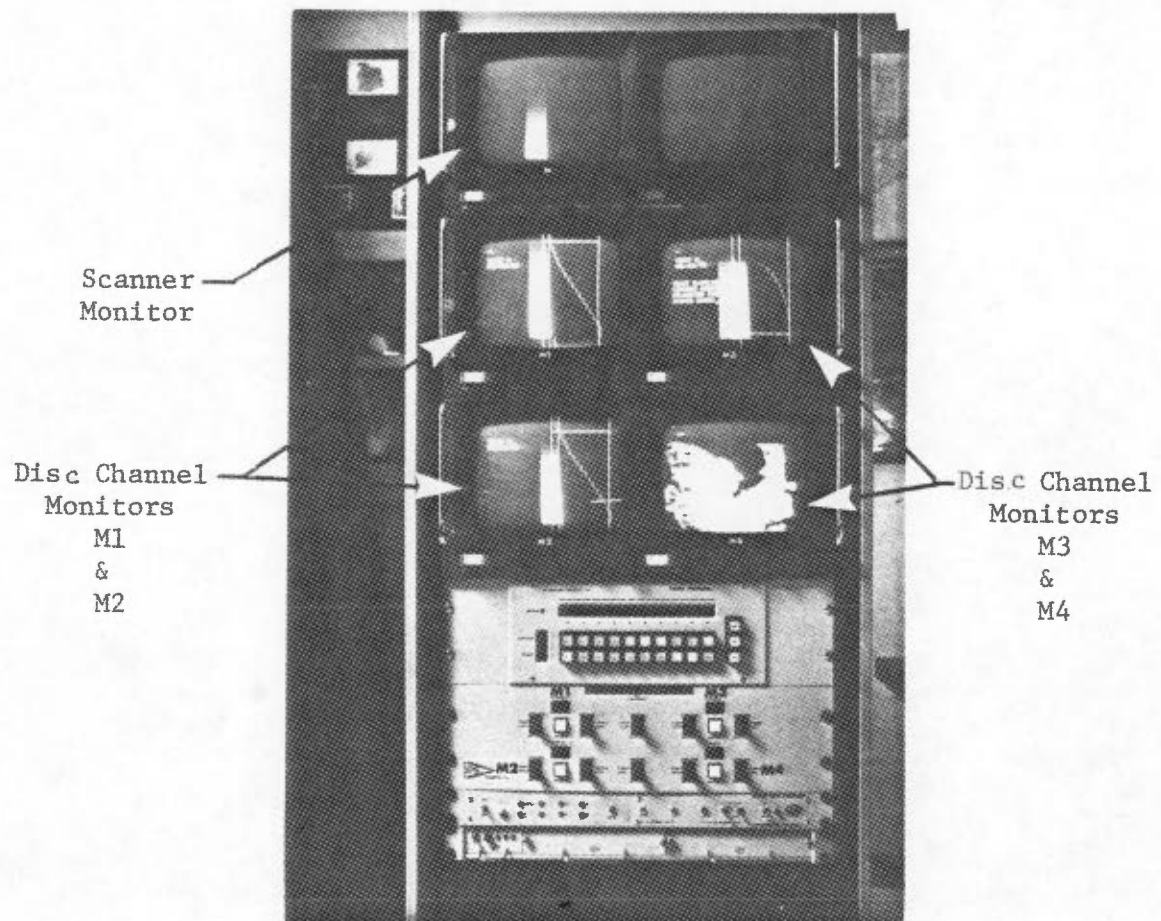

FIGURE 4.2. Channel Monitors For
5. If the four small black and white CRT's labelled M1 to M4 (Figure 4.2) are not identical (the same image) on track 0 then switch the **NTSC** sync generator, directly below the controller, off (red light off) and then on again (red light on). If this action does not correct the problem contact the technical advisor.